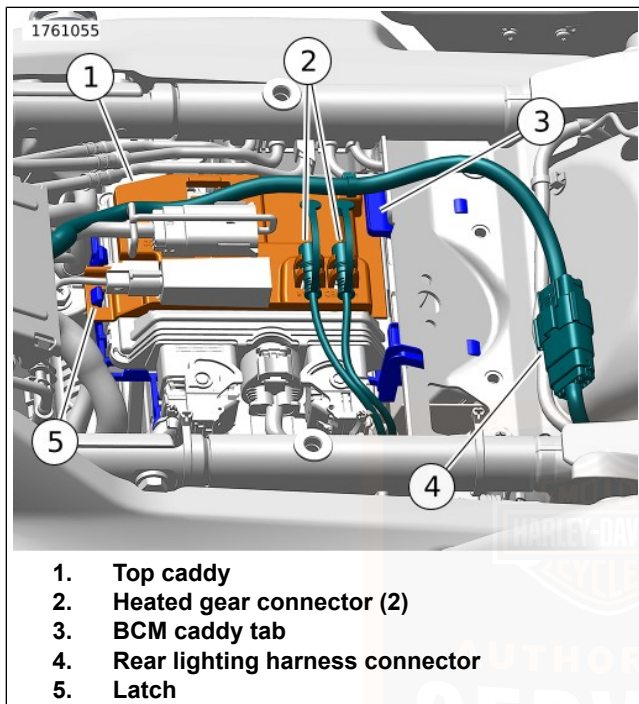
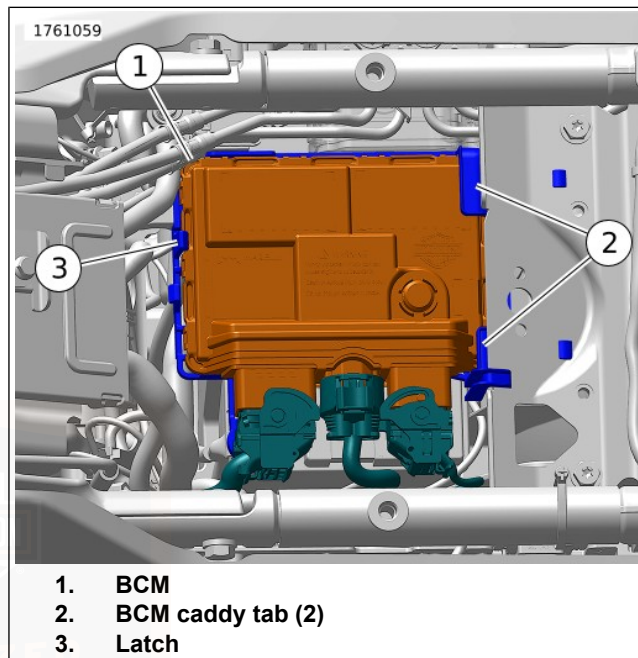
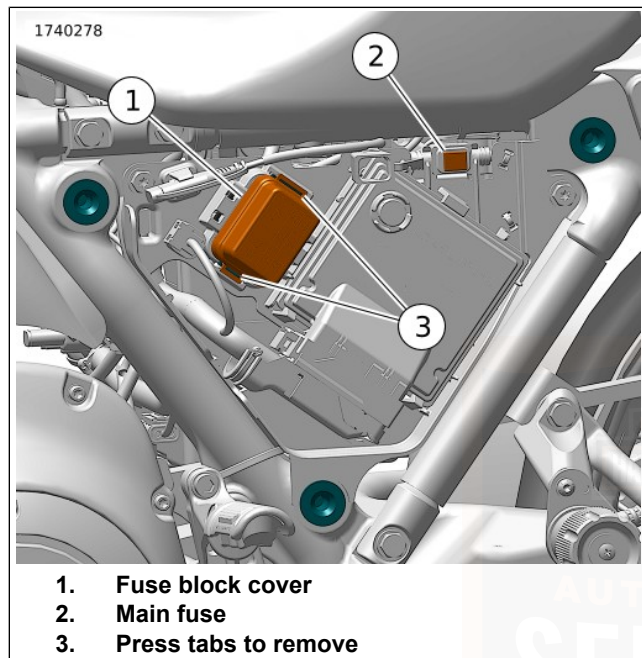

Figure 114. Removing/Installing Top Caddy
Figure 115. Removing/Installing BCM
Figure 118. Fuse Block (under left side cover)
- d. See Figure 118. Remove main fuse (2).
3. See Figure 114. Disconnect rear lighting harness connector (4).
4. Remove heated gear connectors (2) from top caddy (1).
5. Push latch (5) rearward slightly and lift front of top caddy. Slide top caddy forward to release it from BCM caddy tab (3).
7. See Figure 115. Push latch (3) forward slightly and lift front of BCM (1). Slide BCM forward to release it from BCM caddy tabs (2).
9. See Figure 115. Lower BCM (1) down into position on top of BCM caddy. Slide BCM rearward under rear BCM caddy tabs (2).
10. Push down front of BCM until latch (3) snaps in place.
11. See Figure 114. Lower top caddy (1) into position on top of BCM. Slide top caddy rearward under BCM caddy tab (3).
12. Push down front of top caddy until latch (5) snaps in place.
13. Install heated gear connectors (2) into retainers on top caddy.
14. Connect rear lighting harness connector (4).
15. See Figure 118. Install main fuse (2).
See Figure 118. A 60 A main fuse (2) is located near the fuse block. Removing the main fuse disconnects power to all systems except the starter motor/solenoid.
See Figure 118. Fuses are located under left side cover.